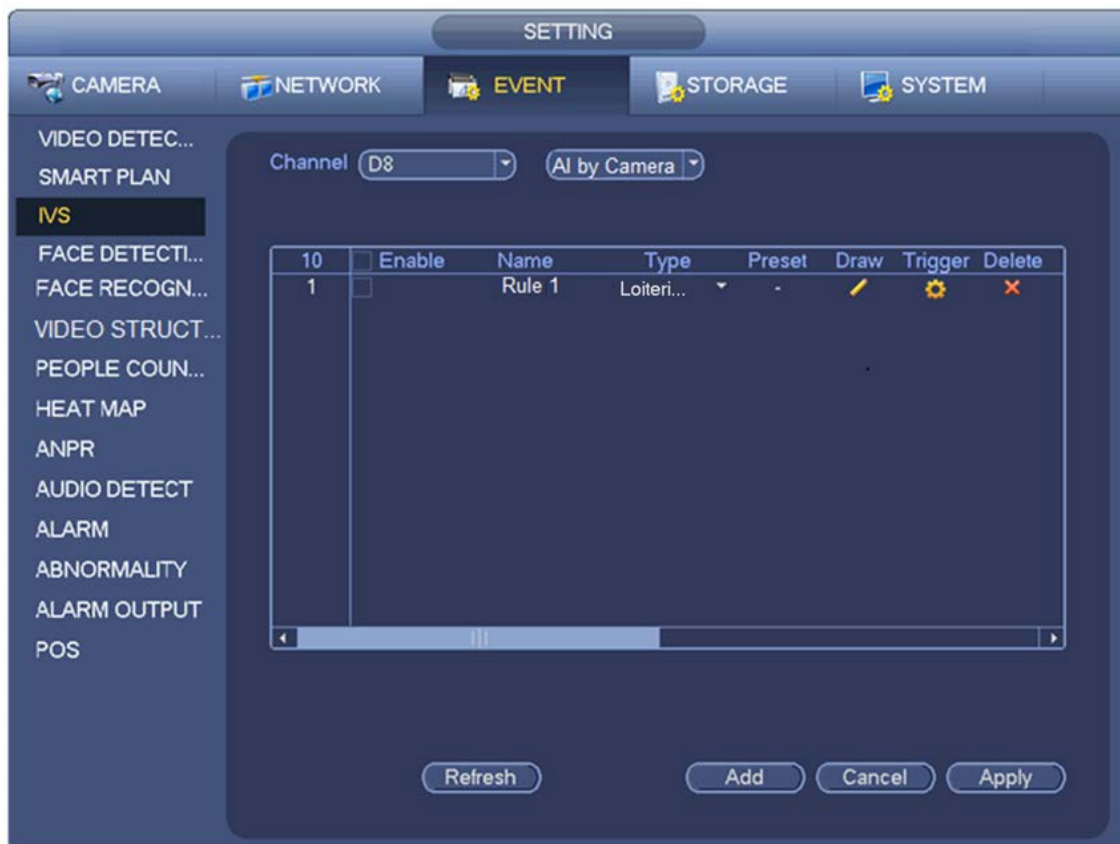

Figure 4-144
Step 1 In the Type drop-down list, select Parking. See Figure 4-144.